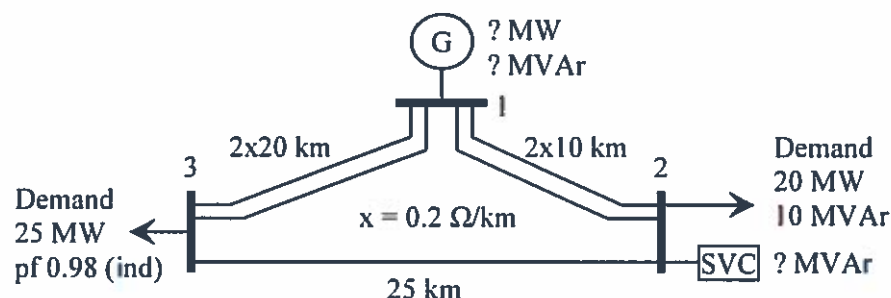

Figure 3
3. A 132 kV network, supplied from a remote generator connected to busbar 1 (Figure below) supplies an industrial site at busbar 3 and a town supplied from busbar 2. Network voltage is controlled by the generator (G) and Static-Var-Compensator (SVC) and is kept at 1 p.u. at busbars 1 and busbar 2. Lengths of the circuits are shown in Figure 3. Individual circuits all have the same unit reactance of $x = 0.2 \Omega/\text{km}$, while active power losses can be ignored.